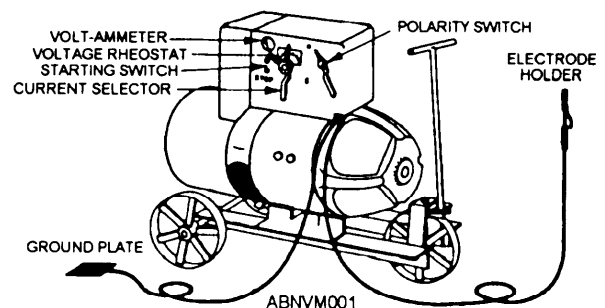
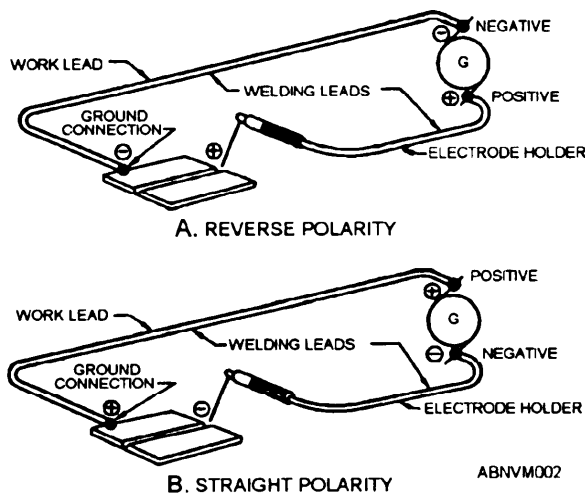

Figure 10-1.—Variable-voltage dc generator welding unit (dual-control type).
Figure 10-2.—Reverse polarity and straight polarity.
Welding machines of this type may have single or dual controls. In the usual single-control generator, output is adjusted by shifting the position of generator brushes or by moving a portion of the magnetic field structure of the generator. In the usual dual-control generator, output is adjusted by varying the generator shunt field strength and varying the strength and direction of the series field. The machine shown in figure 10-1 is a dual-control type fastened on an ordnance handling truck. A ground plate is attached to the work to be welded, and the electrode is clamped in the electrode holder.
All dc generator welding units deliver either straight or reverse polarity welding current. The correct polarity is essential in metal-arc welding, so let's see what the term *polarity* really means. To understand polarity, you must first have a clear understanding of the welding circuit. The welding circuit consists of (1) a source of welding current, (2) a lead attached at one end to the power source and at the other end to the electrode holder, and (3) a ground lead or work lead attached at one end to the power source and at the other end to the work. In any electrical circuit, current flows only when the circuit is closed. When a dc welding circuit is closed, electrons flow from the negative terminal, through the circuit, to the positive terminal of the generator. The polarity can be changed by use of the polarity switch located on the machine. (See fig. 10-1.) If the machine does not have a polarity switch, simply reverse the hookup of the electrode lead and the ground lead, as shown in figure 10-2.